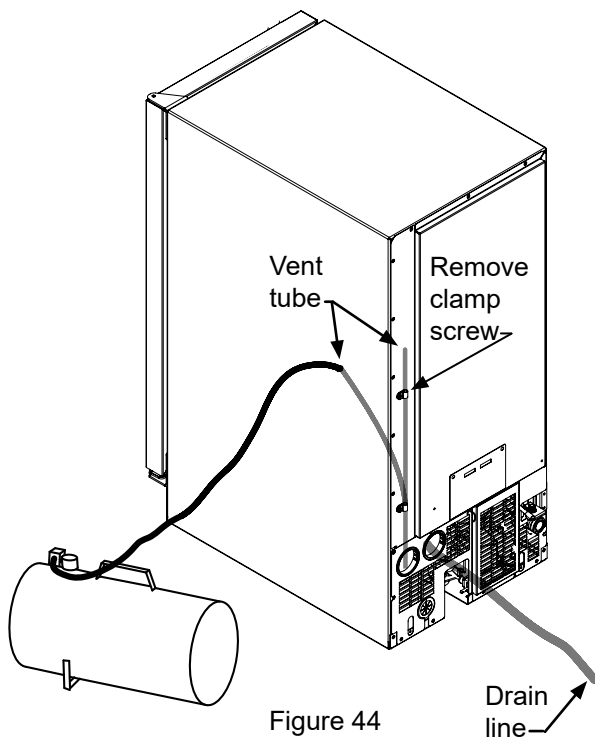

Figure 44
15. Apply air pressure (approximately 10 psi) to the end of the vent tube which will purge the remainder of the water from the drain pump and the drain line. (See Figure 44).